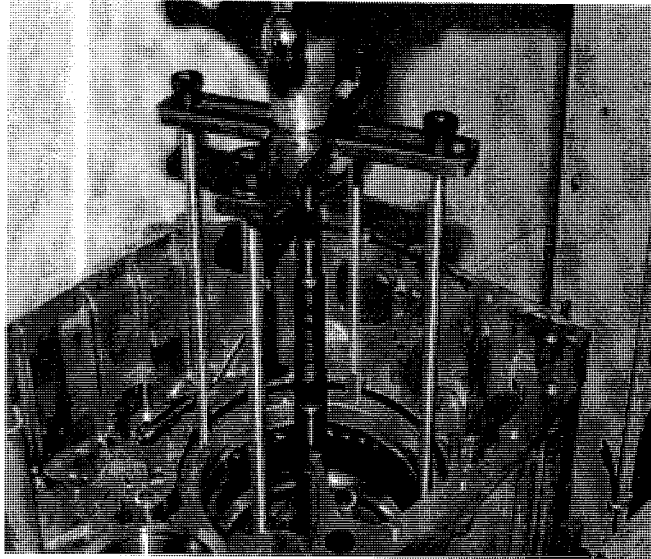

Fig. 8 Pressing Tool Installed
21. With the transmission properly supported in a suitable arbor press, install pressing tool 8901A (with the pressure scale removed) and pressing tool adapter 10428 over the D-Clutch piston/retainer. See (Fig. 8).